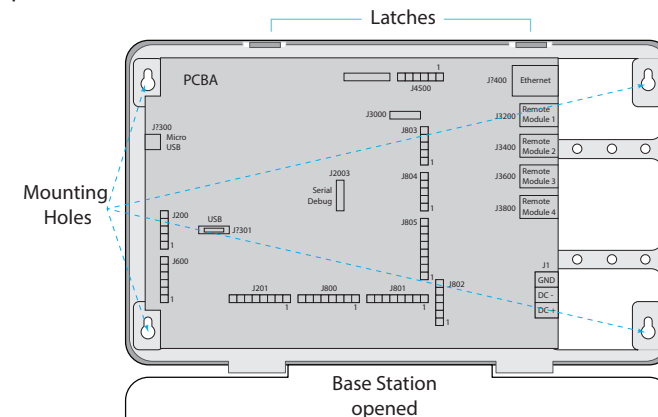

Fig. 1.2
- 3** If you are replacing an existing HME product such as EOS®, mounting the base station close to the location of the base station you are replacing may enable you to use the existing wires/cables without having to route new wires. However, verify the wires/cables are in good condition before using them. Open the base station and mark the mounting location on the wall through the four mounting holes at each corner inside the base station (see Fig. 1.2). Mount the base station using the hardware provided.